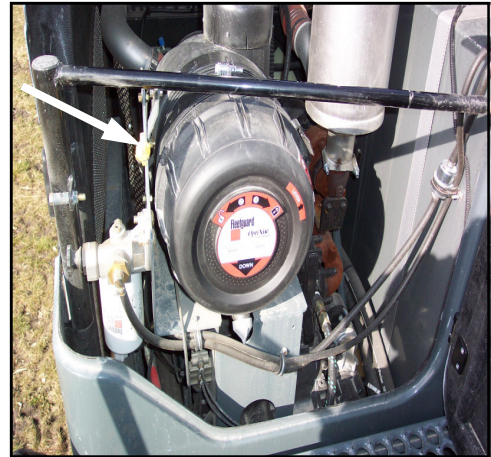

FIG 6.6-1
**OIL LEVEL**—The engine oil level dipstick is located on the left-hand side of the engine (fig. 6.6-1). Never operate the engine with the oil level below the “L” (low) mark or above the “H” (high) mark. Wait at least five minutes after shutting off the engine to check the oil level, this allows the oil to drain to the oil pan. Check the engine oil level daily.